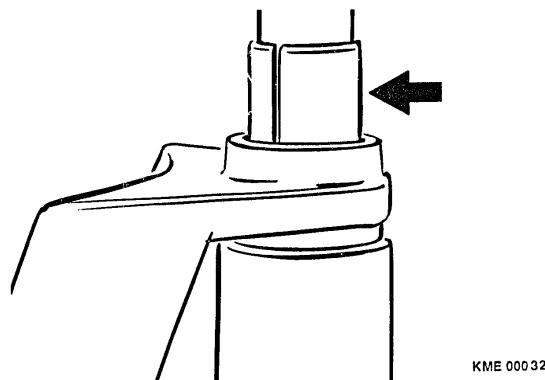

Figure 30 Sliding Bushing Installation
7. Place collector end shield in an arbor press, support mounting/pivot boss on tool KDLJ 6016. (Figure 30)
10. With tool KDLJ 6015, press sliding bushing into end shield until the bushing is flush with the inner surface of the mounting/pivot boss. (Figure 30)